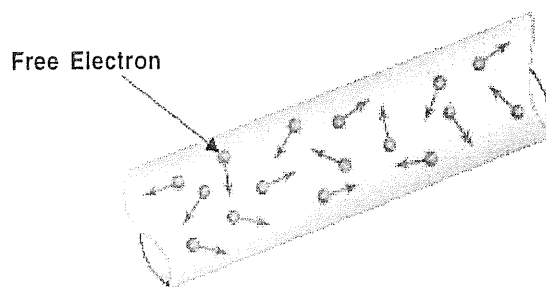

FIG. 1.3 : RANDOM MOTION OF FREE ELECTRONS IN A CONDUCTOR
- In metals (conducting materials) a large number of free electrons are available which move from one atom to the other at random as shown in Fig. 1.3.